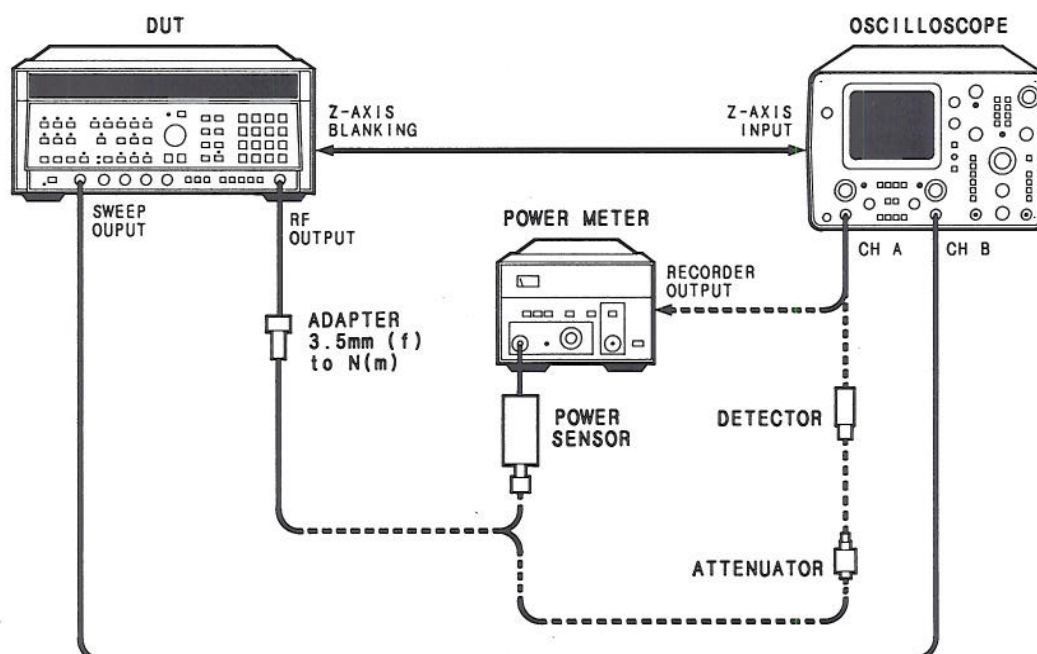

Figure 4-5. Maximum Leveled Output Power and Power Accuracy Test Setup
1. Connect the equipment as shown in Figure 4-5. Connect the HP 8481A power sensor to the DUT RF output. Allow the equipment to warm up for one hour. Set the cal factor % dial to the average value for the band being tested. Zero the power meter (turn DUT's RF power off, zero the power meter, turn the DUT's RF power back on).
7. Connect the equipment as shown in Figure 4-5. Connect the 10 dB pad and crystal detector to the DUT RF output and connect the detector output to the oscilloscope channel A input. Allow the equipment to warm up for one hour. Set oscilloscope controls as follows: channel A to 0.05 V/div channel B to 1V/div. Trigger on B. A vs B mode.
Zero the power meter. Connect the oscilloscope channel A to the power meter's RECORDER OUTPUT. Refer to figure 4-5, Maximum Leveled Output Power and Power Accuracy Test Setup.